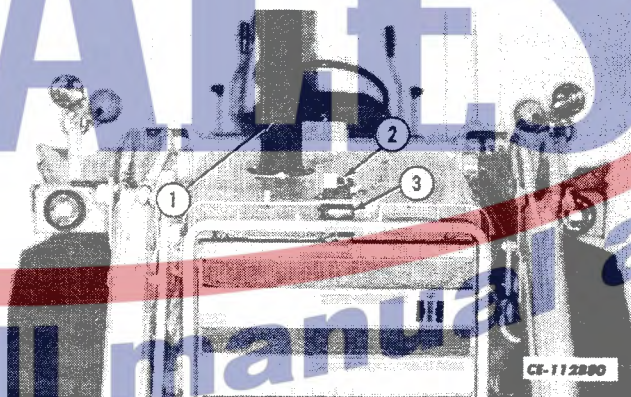

Fig. 18. Hood Disconnection Points
2. Remove the bolts securing filler (2, Fig. 18) to the hood and loosen hose clamp (3, Fig. 18). Remove the filter.
3. Remove the bolts securing muffler (1, Fig. 18) to the hood and loosen the clamp securing the muffler to the exhaust pipe. Remove the muffler. Cover the exhaust pipe.